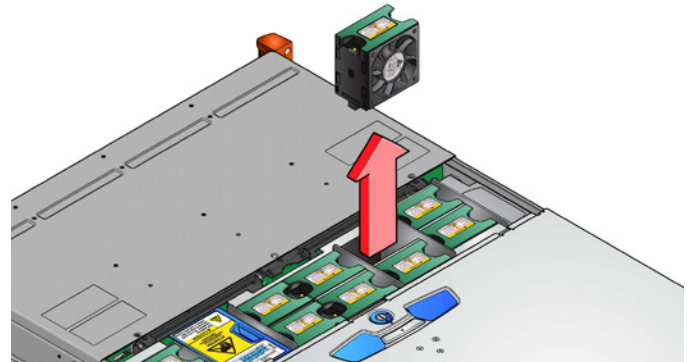

Fig. 36 - Removing a Cooling Fan
2. Grip the faulty fan module with finger and thumb and pull it upwards in order to unplug it from the EM Card and remove it from the enclosure (see Fig. 36).